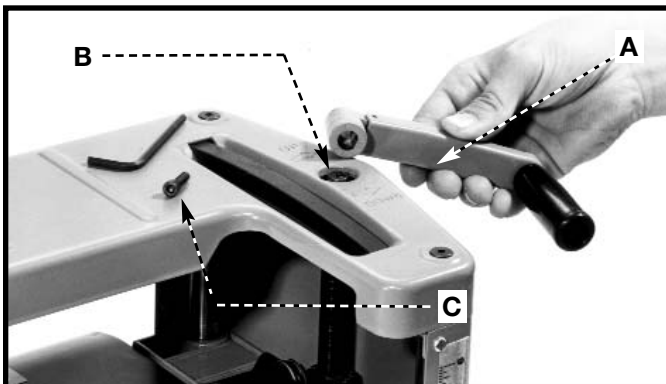

Fig. 4
1. Attach the raising and lowering handle (A) Fig. 4 to the shaft (B) and fasten in place with M5x20mm screw (C).